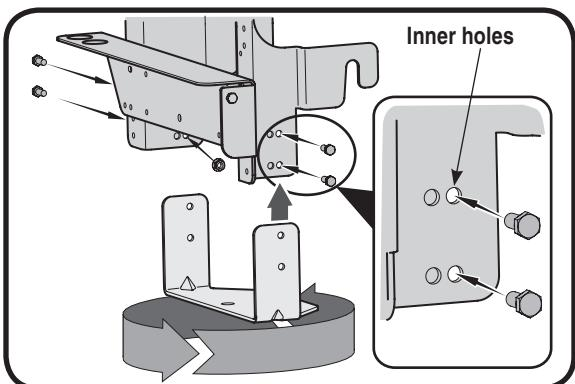

Figure 15
- Rotate the hitch plate 180° from its original position. Re-insert the four bolts through mounting bracket and hitch plate frame and secure with nuts removed earlier. Use the inner holes (closest to the mounting hooks) on the mounting bracket. Refer to Figure 15.